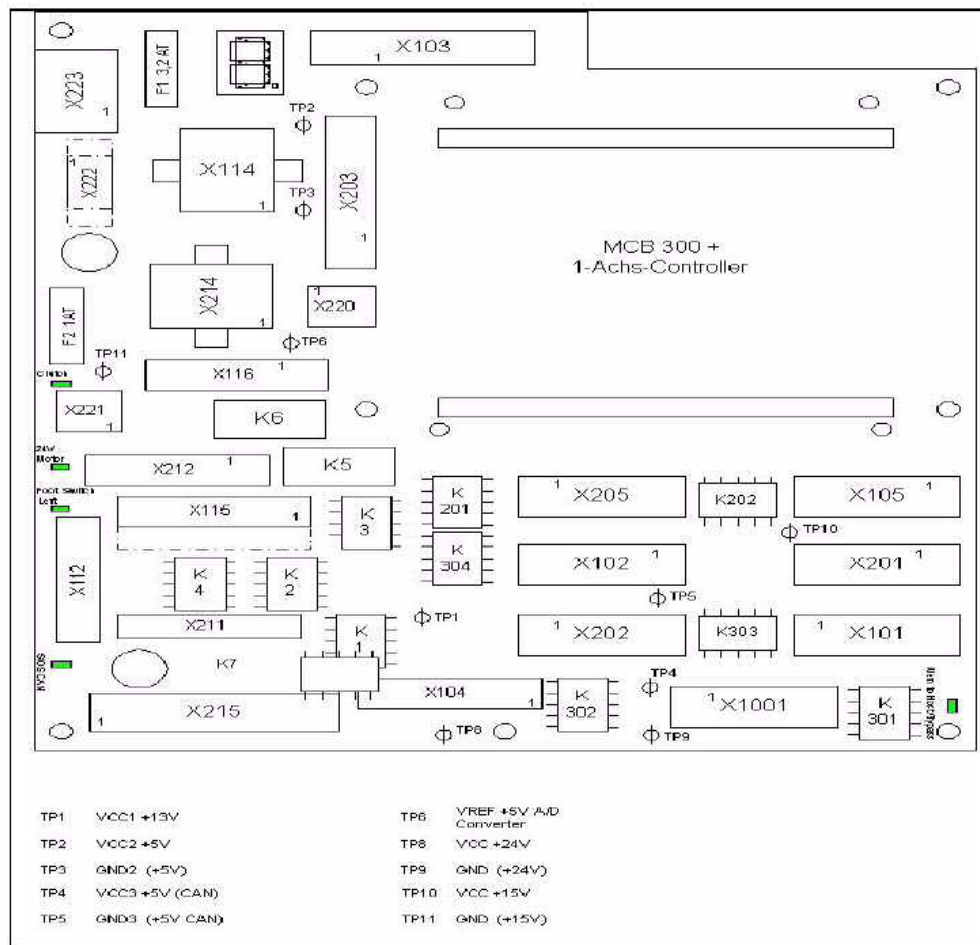

Fig. 17: Connectors D200
- (Fig. 17 / p. 25) shows the layout of board D200.